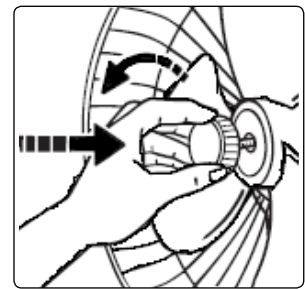

fig.3
- 4.1.4. Align the blade with the shaft and slide into position. Secure in position by tightening the blade knob counter-clockwise. fig.3.